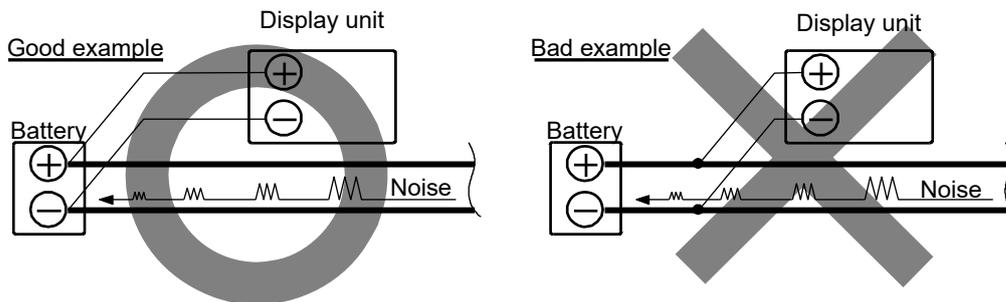

Fig. 5.1.1 Connection of Power Line
- (1) Keep the transducer and power cable as far away from the cables of other electronic equipment as possible.
- (2) The cabinet of Display unit shall be securely grounded to the hull, using the ground terminal on the rear panel.
- (3) If you connect the power cable directly to the battery, the interference from other electronic equipment is not subject to occurrence. (See Fig. 5.1.1)